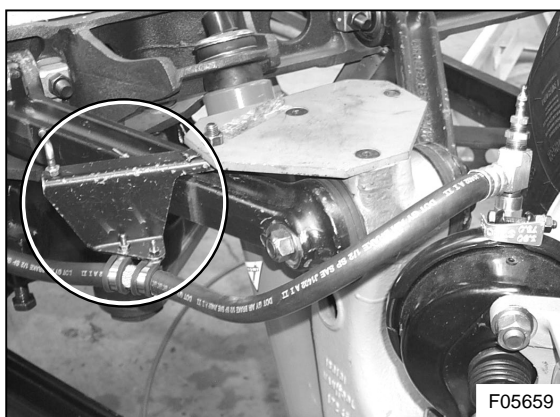

Figure 12: Hose to steering knuckle bracket VH 10761391
- Discard the bracket and replace it by bracket VH 10761391 from the kit (installation shown in Figure 12). Run up the bolt and tighten to a torque of 45 to 60 ft.lbf (60 to 80 Nm).